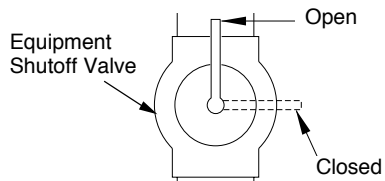

Figure 17 - Equipment Shutoff Valve
1. Close equipment shutoff valve (see Figure 17).
1. Open equipment shutoff valve (see Figure 17, page 13).